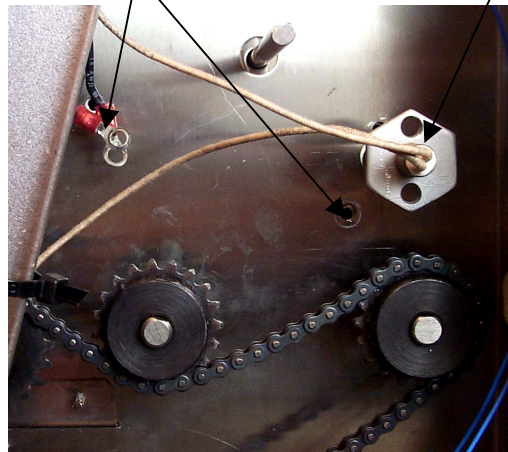

Fig: 9 Loosen heater cartridge and slide forward two to three inches. Remove ground screw and conveyor-support screw.
- Loosen the screw holding the ground wires and the nearby screw, which helps hold the conveyor assembly in place. See Fig 9.